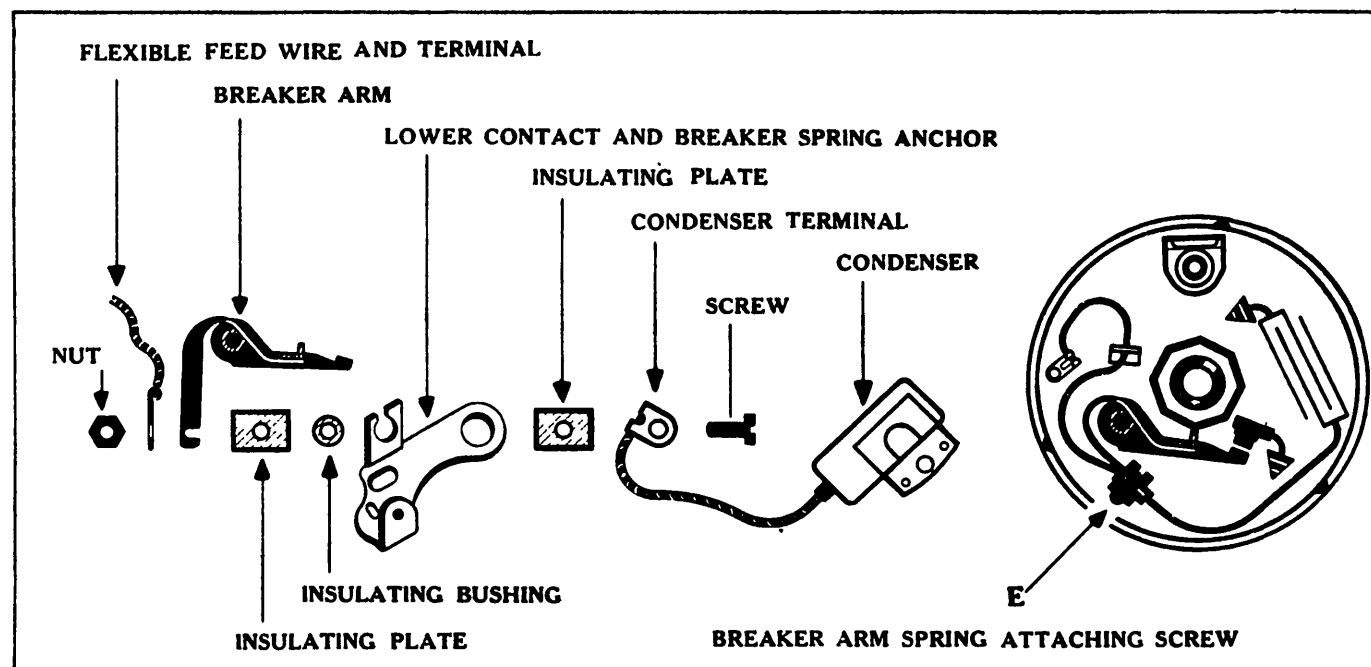

Fig. 24
6. Remove the movable breaker arm. The movable breaker arm may be removed from the distributor, either before or after the breaker plate has been lifted from the cup. Our engineers find that it is more convenient to perform this operation after the breaker plate has been removed from the cup. Figure 24 shows the lower contact and breaker spring anchor, together with the various parts which are held together by the breaker spring attaching screw "E". The parts are shown in the proper order for assembling, and special care should be exercised to see that the insulating bushing is placed in the horse-shoe hole in the breaker spring anchor, which is a part of the lower contact support. It will be noticed that the lip on the condenser terminal fits snugly over the insulating plate on the inside of the breaker spring anchor, and that the lip on the terminal of the flexible feed wire fits over the breaker arm spring.